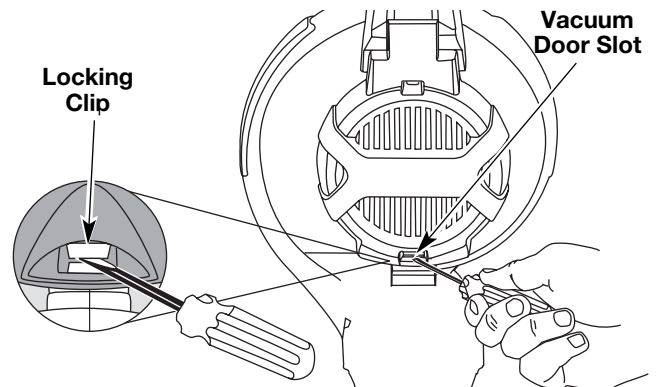

Fig. 4
4. Insert a flat head screwdriver under locking clip, lift upward and open vacuum door (Fig. 4).